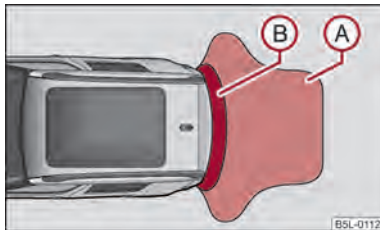
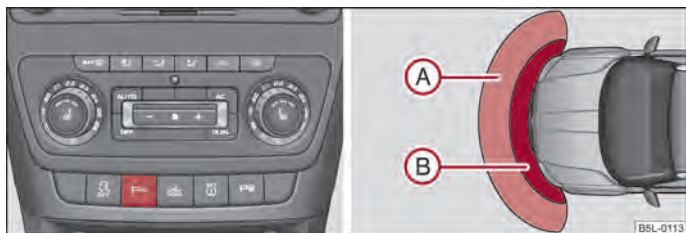

Fig. 99 Parking aid: Detection range of rear sensors
Fig. 100 Activating the parking aid/detection range of the front sensors
The clearance warning begins at a distance of about 160 cm from the obstacle (area **A** ⇒ fig. 99). The interval between the warning signals becomes shorter as the clearance is reduced.
The distance warning begins at a distance of about 120 cm from the obstacle in front of the vehicle (area **A** ⇒ fig. 100) and about 160 cm from the obstacle behind the vehicle (area **A** ⇒ fig. 99). The interval between the warning signals becomes shorter as the clearance is reduced.
The parking aid is activated when the **reverse gear** is engaged and the ignition is switched on or by pressing the button ⇒ fig. 100 - left, the symbol  lights up in the button. The activation is confirmed by a brief acknowledgement signal.
The parking aid is deactivated after pressing the button  ⇒ fig. 100 - left, or at a speed of more than 10 km/h - the symbol  in the button is no longer illuminated. ▶
- If a warning signal sounds for about 3 seconds after activating the system and there is no obstacle close to your car, this indicates a system fault. The fault is confirmed additionally when the symbol  flashes in the button  => fig. 100 - left. Have the fault rectified by a specialist workshop.